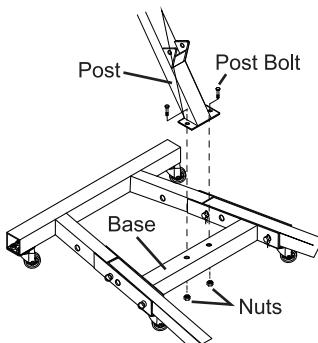

Figure 6
- Use the Post Bolts (6) and Nuts (3) to secure the bottom of the Post to the Base. See Figure 6.